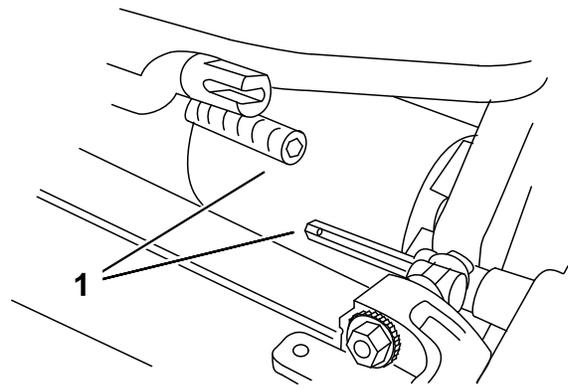

Figure 53
6. Pull cutting unit forward about 2 inch (51 mm) and then to the right to disengage the transmission coupling (Figure 53).